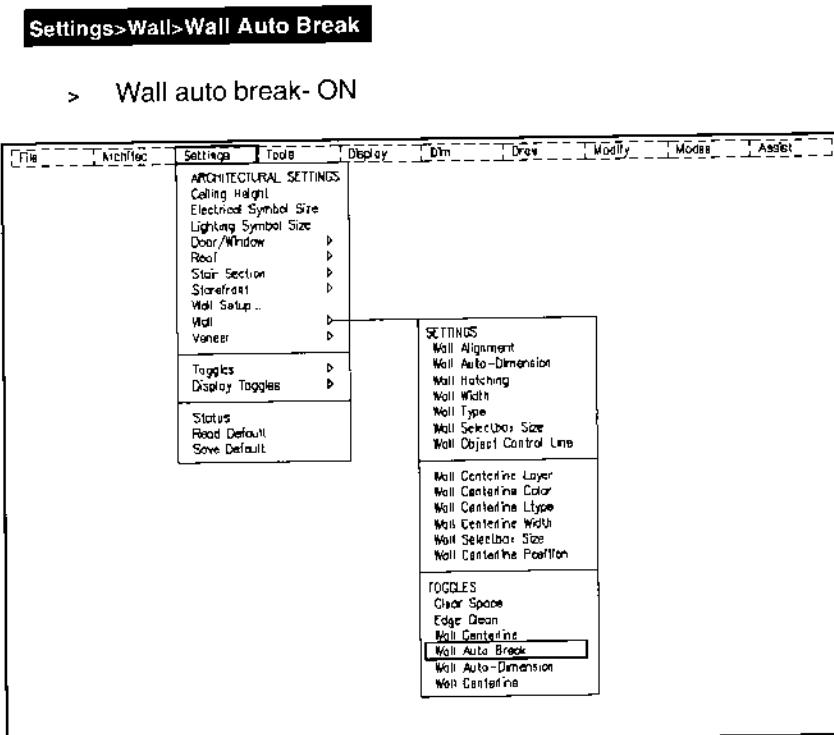

Figure 22.
2. Since only one value needs to be changed, select the Wall Auto Break command from the Wall cascading submenu under the Settings pull-down menu as shown in Figure 22.